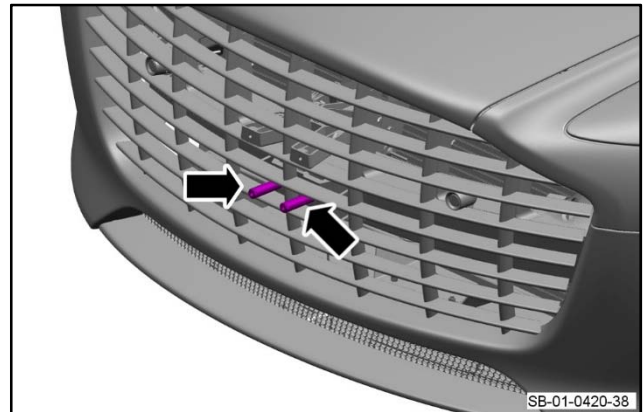

Figure 38
2. Install and torque the two bolster studs to the front bumper armature to 23 Nm (refer to Figure 38).